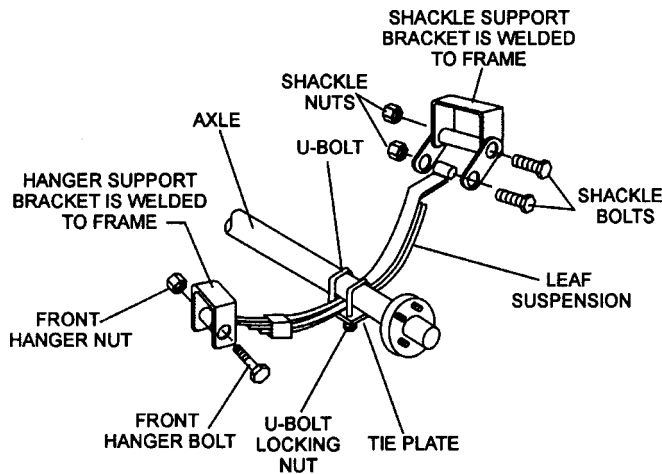

Figure 66. Major Suspension Components
16. **Lug Nuts** - Used to secure the wheel to the wheel hub. Always use a torque wrench to tighten down the lug nuts. See Table 18 and Figure 66 for lug nut tightening and tightening sequence.
The leaf suspension springs and associated components (Figure 66) should be visually inspected every 6,000 miles for signs of excessive wear, elongation of bolt holes, and loosening of fasteners. Replace all damaged parts (suspension) immediately. Torqued suspension components as detailed in Table 17.
2. Torque all lug nuts in sequence. See Figure 66. **DO NOT** torque the wheel lug nuts all the way down. Tighten each lug nut in 3 separate passes as defined by Table 18.